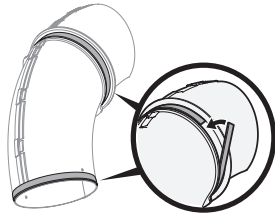

Figure 21
1. Peel the backing off of one of the narrow self-adhesive foam strips that has been included with your grass collector. Apply it to the upper chute, flush against the flange as shown in Figure 21.
2. Peel the backing off of the other narrow self-adhesive foam strip and apply it to the bottom edge of the upper chute tube, flush against the edge as shown in Figure 21.